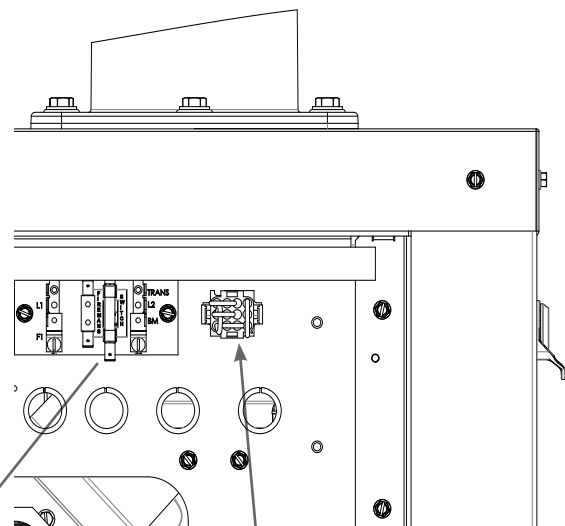

Figure 34.
- Connect the RED PLUG (240 VAC) into the 12-pin plug located on the electrical panel, see Figure 34).
- Connect wires between the Fireman's Switch terminals on the heater and the relay. Connect wires from the controller or timer to the Fireman's Switch. Controller, timer or relay should be sized to handle 24 VAC at 0.5 Amp (because it will be completing the 24 VAC control board circuit on the heater as shown in Figure 34 on page 40). **DO NOT** apply line voltage to the Fireman's Switch terminals. Use 18 gauge wire with a minimum 3/64-in (1.2 mm) thick insulation rated for a temperature rise of at least 105°C.
3. If the 12-pin plug is not plugged into the back of the control box, select the correct plug from the bag in the control box and plug it in. The BLUE plug is for 120 volts, the RED plug is for 240 volts. See Figure 34 on page 40)